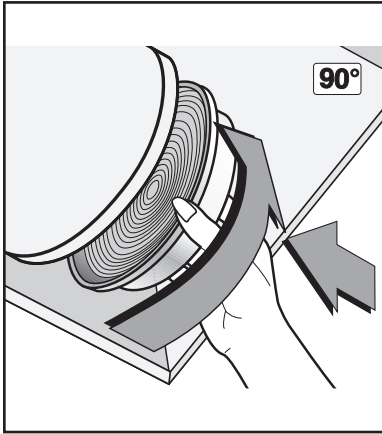
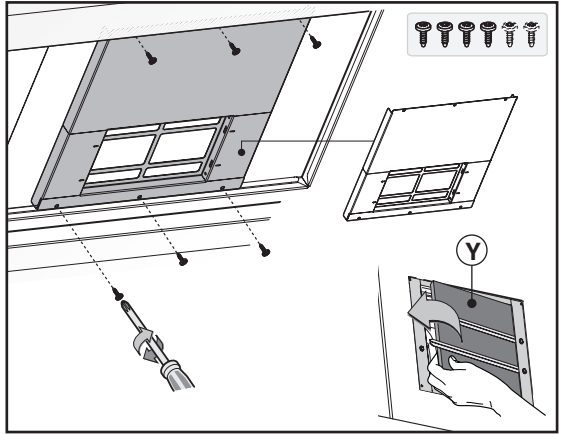

Fig.13
Fig.14
- To transform the hood from the **SUCTION** version to the **FILTERING** version, charcoal filters must be ordered from your dealer as an accessory. Two types of kit are available, one with non-renewable filters (Fig.13) and the other with renewable filters (washable) (Fig.14). Unlike traditional carbon filters, this carbon filter can be washed and reactivated for approximately 12-15 times. With normal hood use, this filter should be cleaned once every 2-3 months. The filter can be washed into a dishwasher at the highest temperature using a standard dishwasher detergent. After washing, dry the filter in the oven at 100°C for 10-15 minutes to reactivate it. The filter will retain its odour-absorbing capacity for three years, after which it will have to be replaced.
- If a bracket is found in the packaging like that indicated in Fig.14 loosen the screws already installed inside the hood and install the bracket using the previously-removed screws.
- To replace re-usable carbon filters **Y**, remove the brackets from their seat, pulling them outwards (Fig.14).
- If your product is not supplied with the bracket, it means that the active charcoal filter cannot be renewed (Fig.13). These must be applied to the suction unit inside the hood, centring them in it and turning them 90° until they snap into place (Fig.13).